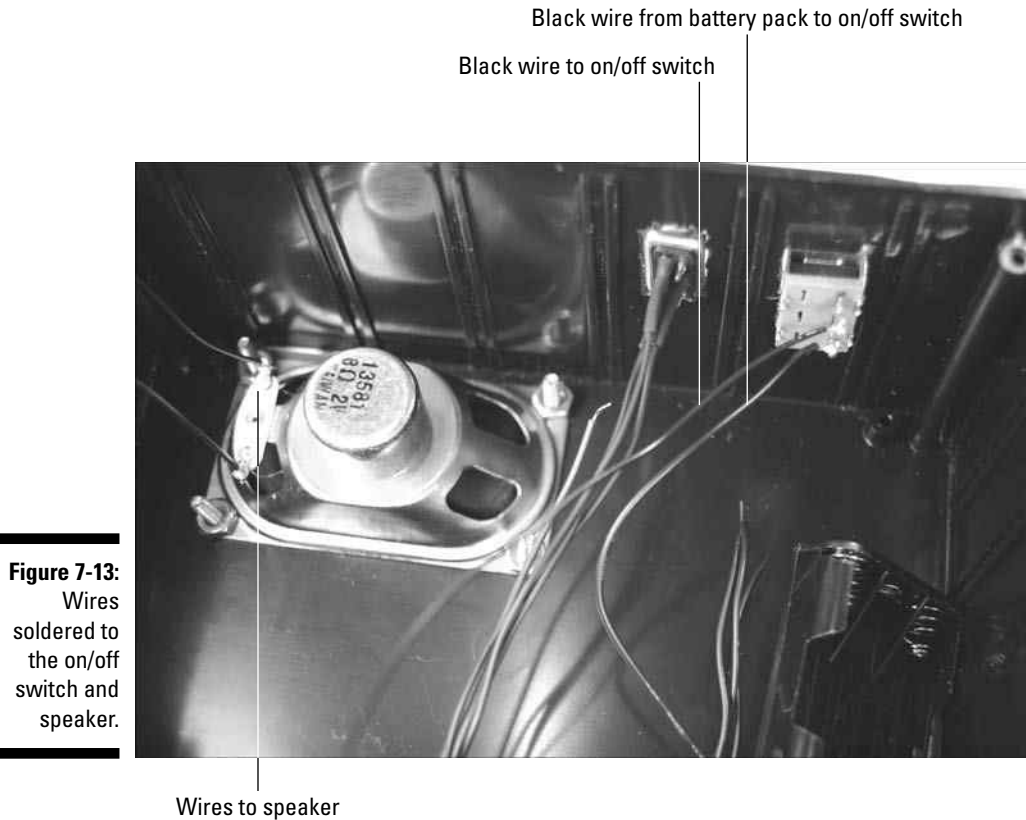

Figure 7-13:
5. **Solder the black wire from the battery pack to one lug of the on/off switch and solder an 8" black wire to the other lug of the on/off switch, as shown in Figure 7-13.**
6. **Solder a 6" black wire to each of the two solder lugs on the speaker, as shown in Figure 7-13.**